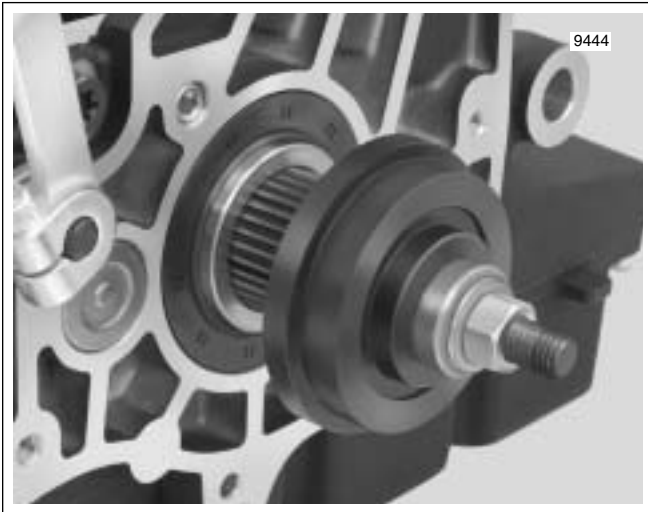

Figure 7-30. Main Drive Gear Removal (Left Side)
7. Install Nice bearing, flat washer and hex nut on bolt. See Figure 7-30.